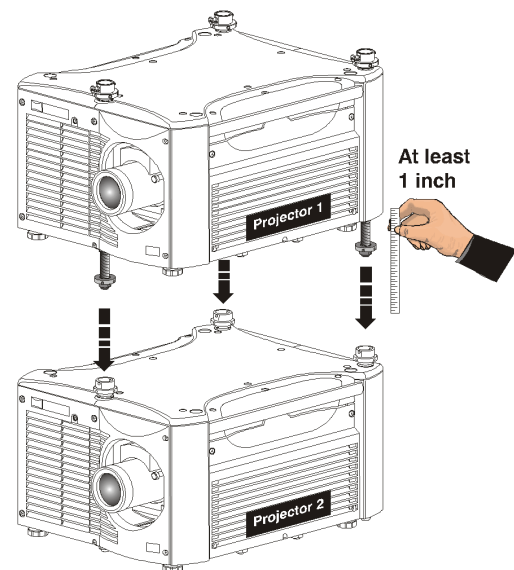

Figure 2-18 Extend 3 Stacking Legs (UPRIGHT STACK SHOWN)
Extend the stacking legs (3) by turning them so that at least 1 inch of thread is visible on each. This clearance accommodates the up-or-down movement for aligning the images from the stacked projectors. Ensure that you extend all 3 legs equally (see *Figure 2-18*) so they are level.
IMPORTANT! *Ensure the stacking legs are extended at least 1 inch and are slightly loosened. Refer to *Figure 2-18*.*